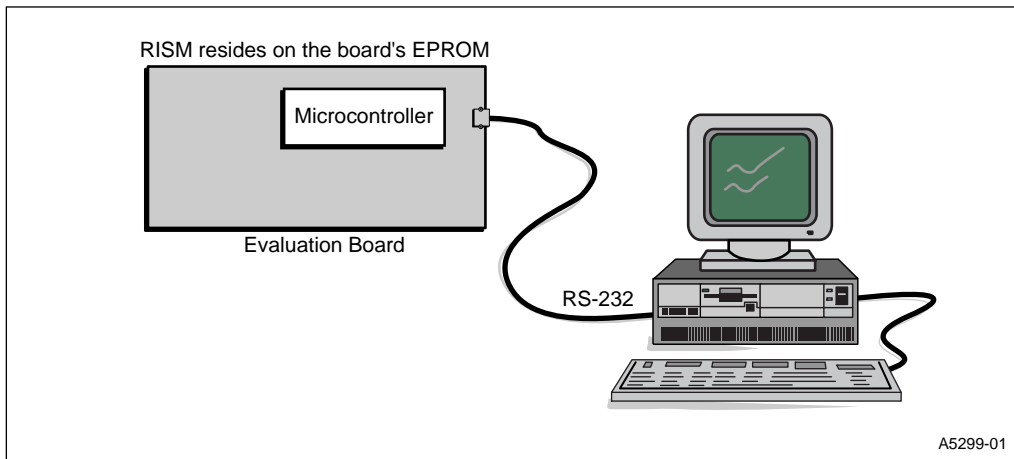

Figure 7. Serial Link Between the 8x931 Family USB Evaluation Board and a PC
The ROM-monitor communicates with the peripheral controller by sending special RISM commands across the serial port from a personal computer (PC) at a fixed baud rate. Figure 7 shows the relationship between the evaluation board and a PC.